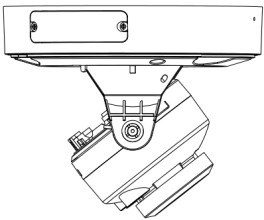

Figure 2-7 Adjusting the viewing angle
- 4. Angle of view adjustment: This series of cameras supports three-axis adjustment of the lens. The horizontal direction can be rotated 0-360°, the vertical direction can be rotated 0-80°, and the rotation direction can be rotated 0-360°. The adjustment method is shown in Figure 2-7.